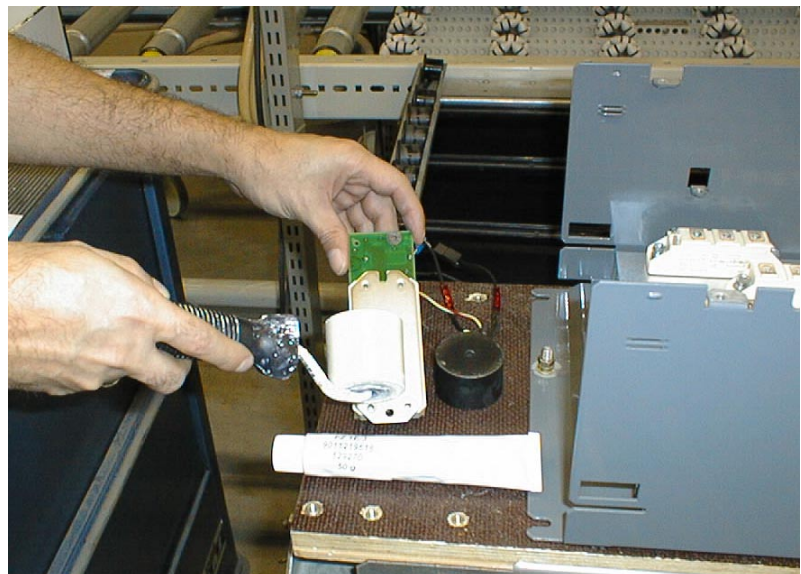

Figure 5-5 Application of thermal compound to IGBT-module
2. Apply a thin coat of thermal compound to the new IGBT-module of the new field exciter unit, refer to *Figure 5-5*. Spread the thermal joint compound evenly by moving the module forward and backward on the heatsink.